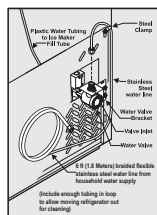

Figure 2
- The nut and ferrule are already assembled on the tubing. Slide compression nut onto valve inlet and finger tighten compression nut onto valve. Tighten another half turn with a wrench; DO NOT over tighten. See Figure 2.